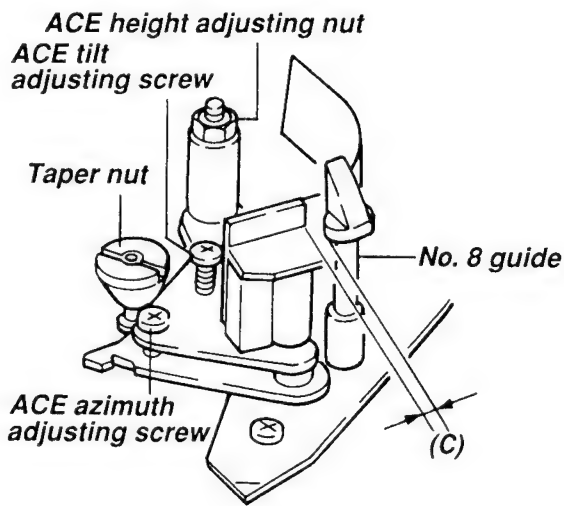

Fig. 5-4-3
- Confirm from Fig. 5-4-3 that clearance (C) is provided between the ACE head and No. 8 guide cap as shown in Fig. 5-4-3. (In usual, it is so designed as to leave about 1mm gap.) If there is no clearance, loosen the taper nut and perform the procedure (b) at the position displaced by 1 frame.
2. If tape wrinkle is observed at the lower flange of No. 8 guide, adjust the ACE tilt adjusting screw counterclockwise as shown in Fig. 5-4-3 until the wrinkle disappears.
2. Adjust the ACE azimuth adjusting screw for maximum audio output as shown in Fig. 5-4-3.